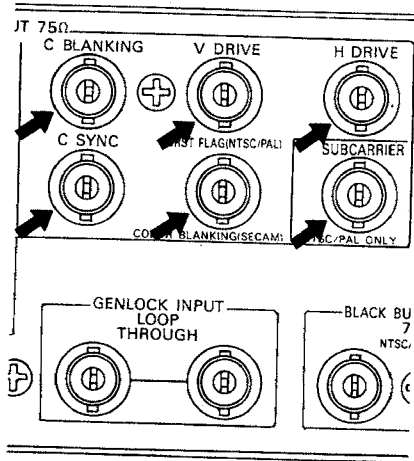

Figure 4.19
4.6.1 Blanking, Sync, VH, HD, Burst Flag and Subcarrier Signal Output (See Figure 4.19 and Table 4.7)